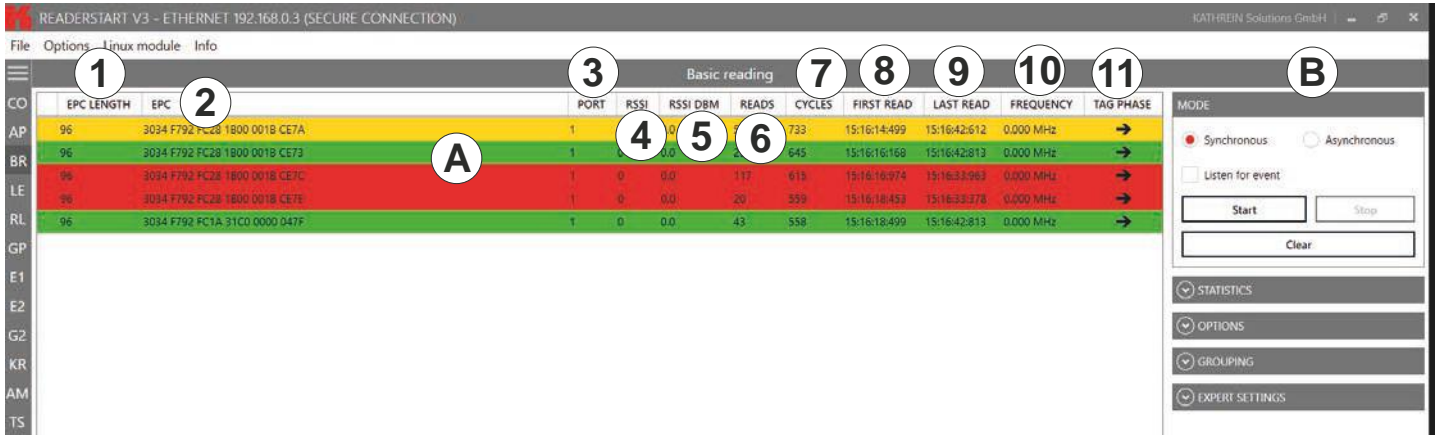
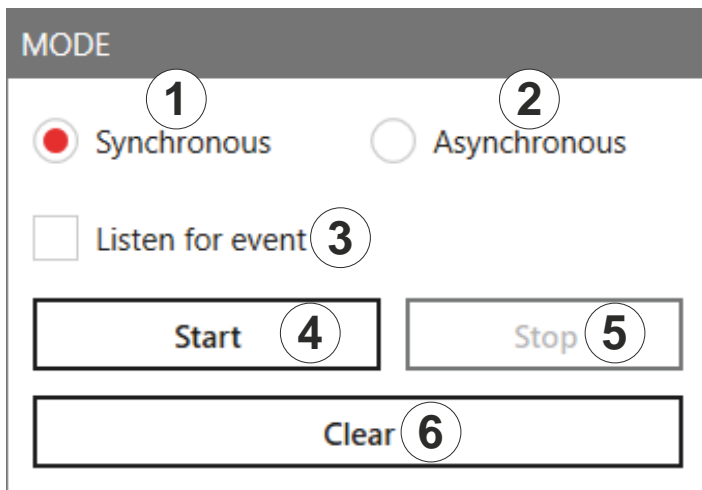

Fig. 34: Basic reading
Fig. 35: Basic reading: mode
- Click **Start** (④ in Fig. 35) to start the reading.
- Click **Stop** (⑤) to stop the reading.
- Click **Clear** (⑥) to remove all tag entries from the table (Ⓐ in Fig. 34, p. 72).